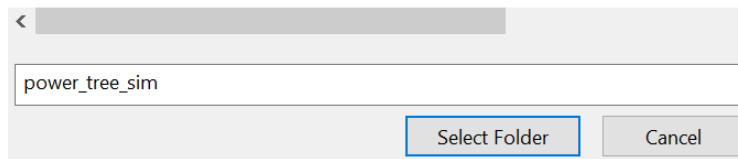

Figure 4-1. Selecting the Project Directory in CCS
- b. Use Project>Import Existing CCS Eclipse Project. Go to the desired demo project directory that contains main.c. This is illustrated in Figure 4-1.
- f. At this point, the code is fully uploaded to CCS. The workspace looks like Figure 4-1.